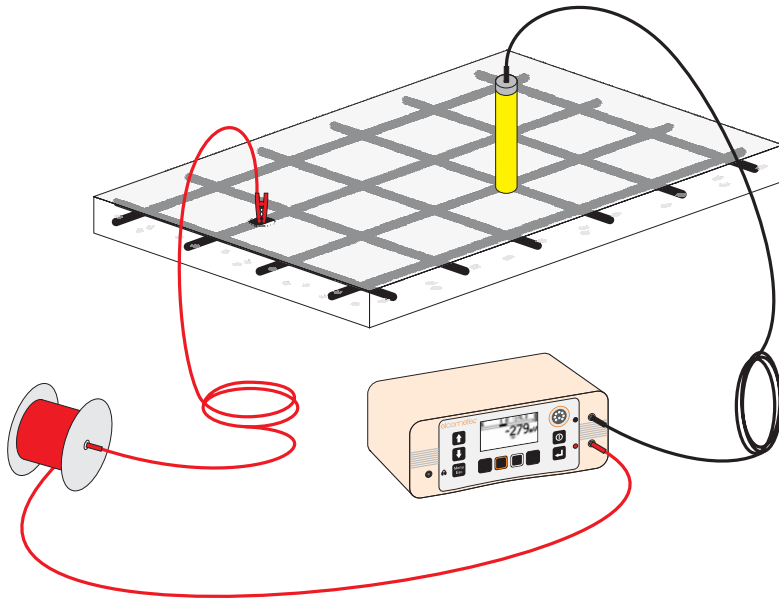

Figure 20. Typical instrument configuration for half-cell measurements
6. Connect the red cable and extension reel between the exposed reinforcing bar and the red terminal on the Covermeter (Figure 20). Connect the black cable between the probe and the black terminal on the Covermeter.